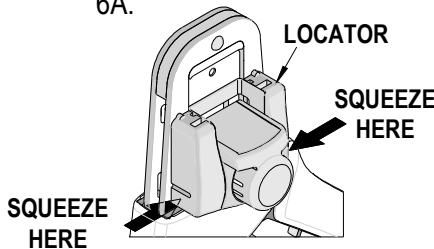

Figure 6A
2. Squeeze gently on the lower area shown in Figure 6A with your thumb and index finger. The lower tabs of the locator should disengage from the hand tool.
3. Lift and pull away from the hand tool. The top locator hooks should slip out of the top slots easily. See Figure 6A.